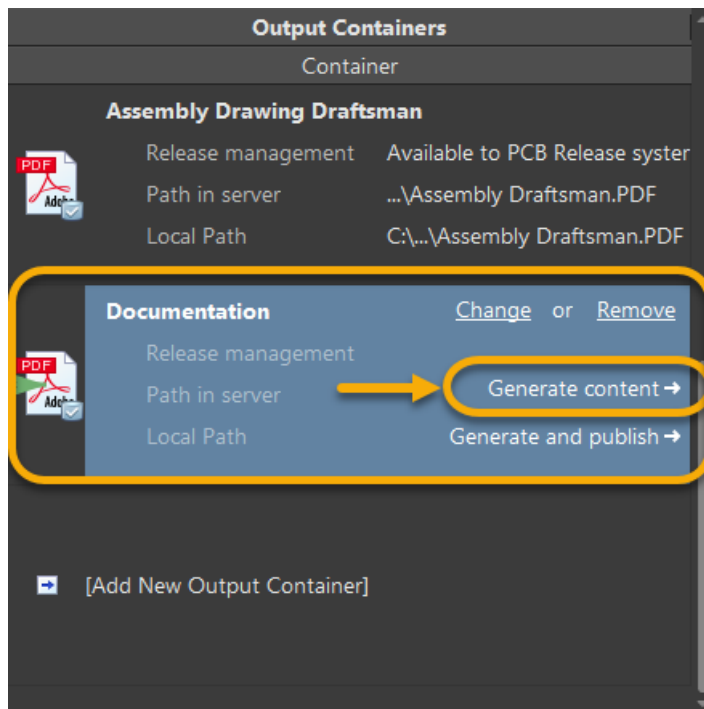

Figure 8. Generating the PDF outputs
29. To create the PDF for Schematic file, highlight the PDF container *Documentation* and click on the **Generate Content** → link as shown in Figure 8.